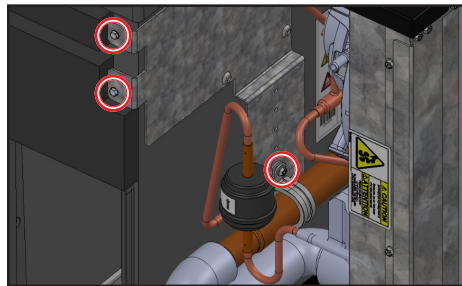

Fig. 1. TrueZone bracket and p-clip screw locations.
3. Remove the TrueZone bracket and p-clip from the appliance. See fig. 1.